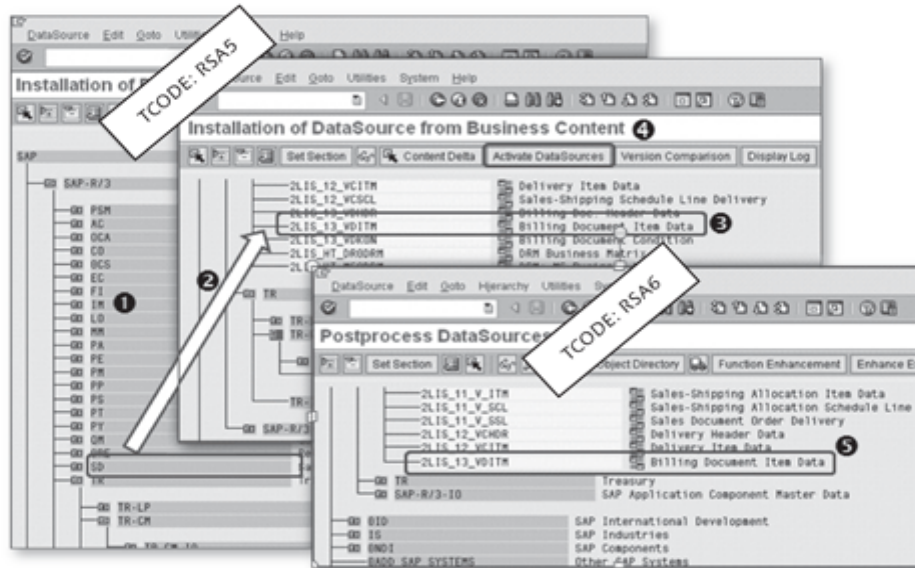

Figure 8.2 Activating SAP Business Content DataSource
To activate a DataSource, use Transaction RSA5 in the SAP ERP source system. All of the SAP Business Content DataSources (transaction as well as master data) are listed in a hierarchical manner (❶ of Figure 8.2) and grouped together based on the functional area or business process. These groups are called application components (❶).